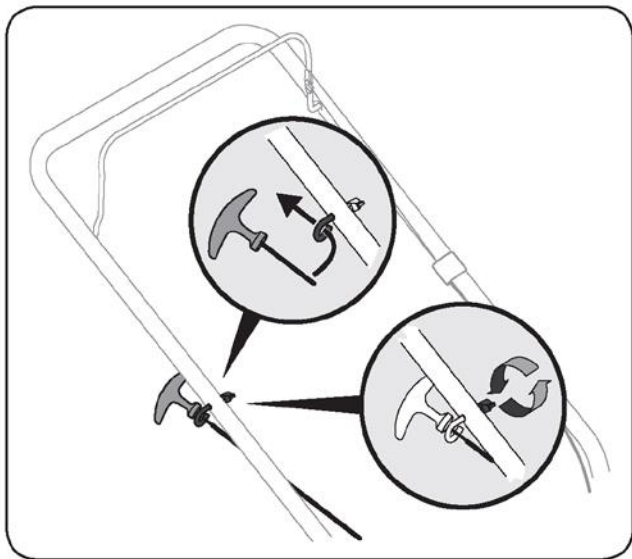

Figure 3-3
3. Wind the starter rope onto the hanger ring bolt. See figure 3-3.